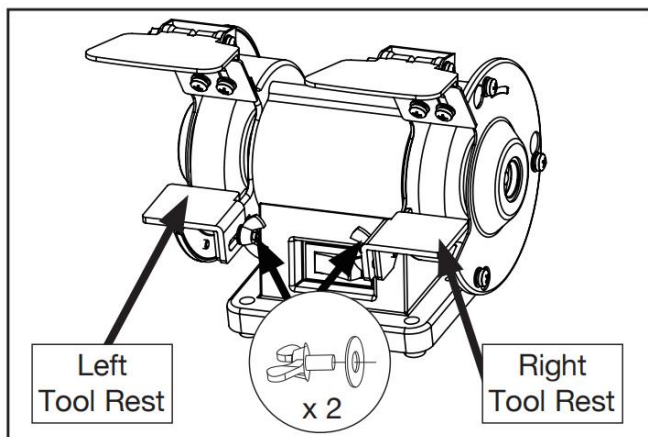

Figure 10. Tool rests attached to grinder.
3. Attach each tool rest to grinder using (2) 4mm flat washers and (2) M4-.7 x 10 wing bolts, as shown in **Figure 10**.